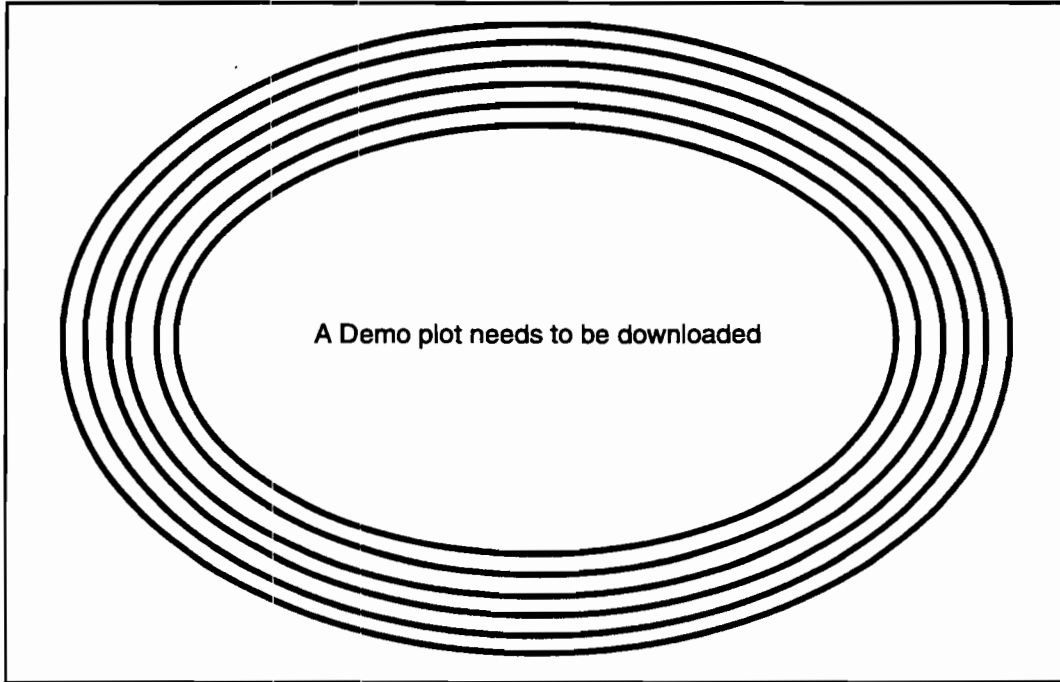

Figure 3-52. Back-Up Plot
9. If the demonstration plot has not been installed on the VRC hard disk, an alternate plot will be displayed. See Figure 3-52.